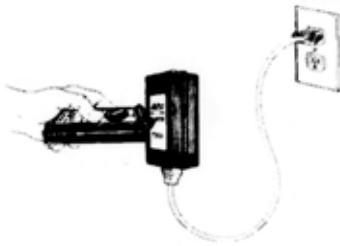

Fig.1
1. Plug the transmitter into any standard electrical outlet (see Fig.1). If there is no outlet available, use the pigtail connector provided.
3. Press "ON" and wait 2 seconds for the receiver to calibrate. Holding the calibrated receiver, touch its tip to the front and center of the operating transmitter (see Fig. 1). Ten LEDs will flash brightly, in sequence from left to right, at the same rate as the transmitter's LED, indicating that the receiver is working correctly. This flashing LED response from the probe is what you will be looking for as you trace circuits.